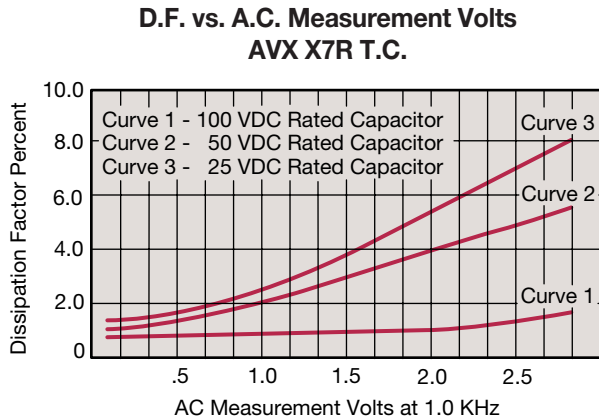

Figure 3
- Tape with components shall pass around radius "R" without damage. The minimum trailer length (Note 2 Fig. 3) may require additional length to provide R min. for 12 mm embossed tape for reels with hub diameters approaching N min. (Table 4).
Capacitor specifications specify the AC voltage at which to measure (normally 0.5 or 1 VAC) and application of the wrong voltage can cause spurious readings. Figure 3 gives the voltage coefficient of dissipation factor for various AC voltages at 1 kilohertz. Applications of different frequencies will affect the percentage changes versus voltages.